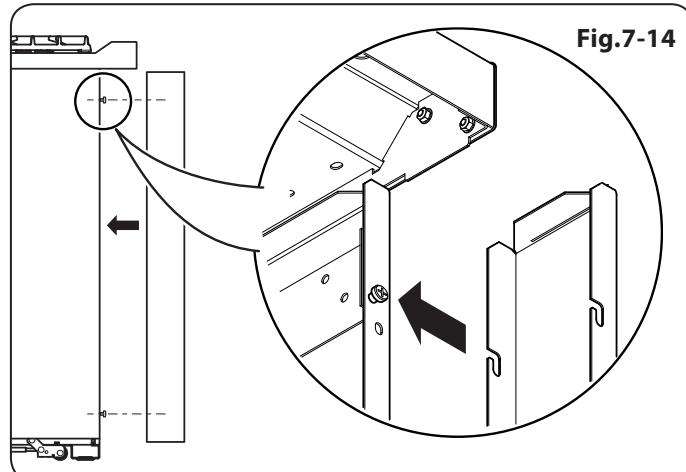

Fig.7-14
2. Using the cut-outs, locate the side extension onto the protruding screw heads (Fig.7-14).